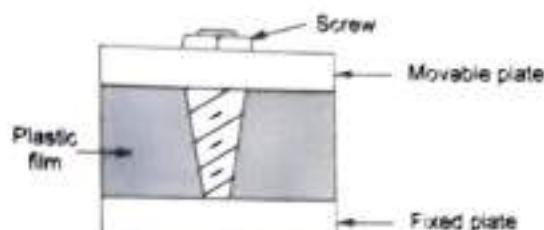

Fig. Q.6.2 Trimmer capacitor
- The construction of plastic film trimmer capacitor is shown in the Fig. Q.6.2. These are also called plastic cored capacitors.